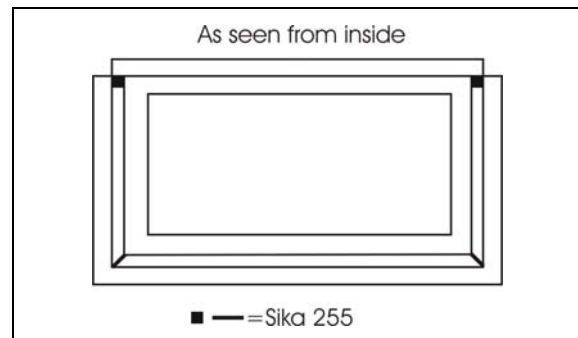

FIGURE 64: SIKA 255 APPLICATION
5. Apply Sika 255 in the upper and lower frame corner as per FIGURE 64.